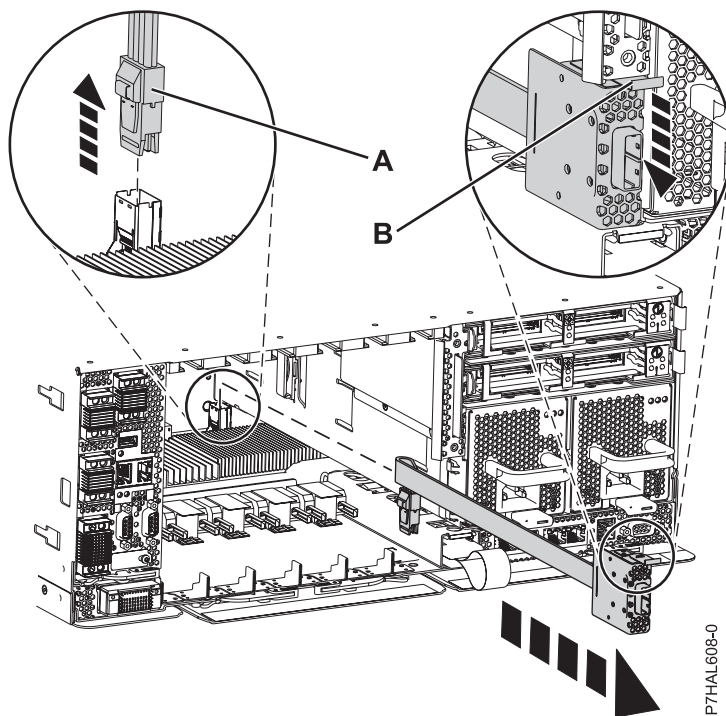

Figure 75. Removing the SAS cable
4. Press the side tab and pull the SAS shroud (A) out of the SAS connection port on the system backplane, as shown in Figure 75.
5. Push the external SAS port down (B) and then pull the SAS cable out of the system.